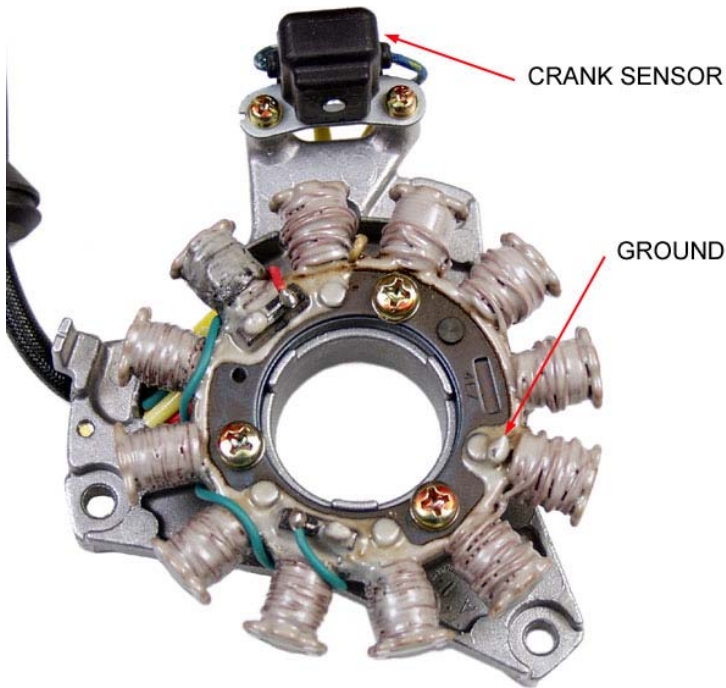

Figure 1.
- Locate the stator Ground wire (see Fig. 1). **Carefully** remove the epoxy around this connection.